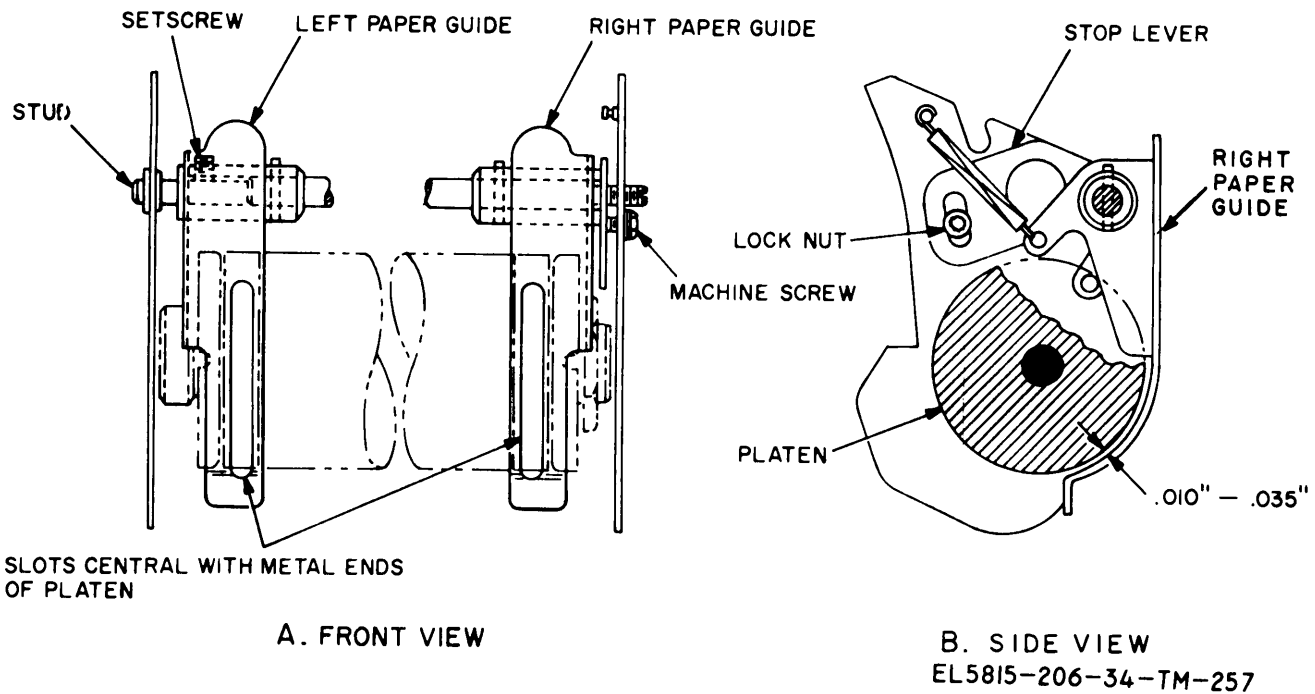

Figure 3-185. Paper-guide adjustment (TT-4C/TG, TT-335/TG, TT-537/G, and TT-698B/TG).
**3-217. Paper-Guide Adjustment (TT-4C/TG, TT-335/TG, TT-537/G, and TT-698B/TG) (fig. 3-185)**
(1) The slots in the paper guides should be central with the metal ends of the platen.
(2) There should be 0.010- to 0.035-inch clearance between the paper guides and the platen.